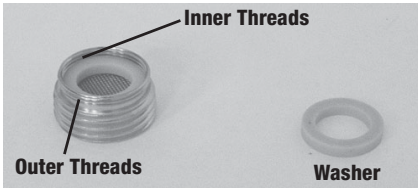

Figure 9: Inner and outer threads of Standard Fitting
2. The Standard Sink Fitting (fig.9) has both inner and outer threads. It will fit about ninety percent of all faucets.